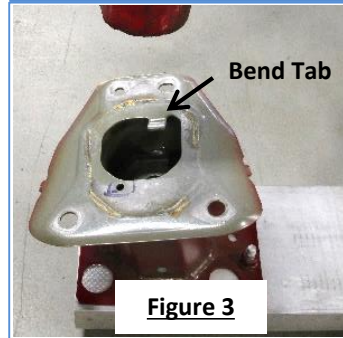

Figure 3
- 4. Modify bumper beam** – using a hammer, bend the metal tabs on back of bumper beam so they are flush with bumper beam mounting surface. **See Figure 3.**